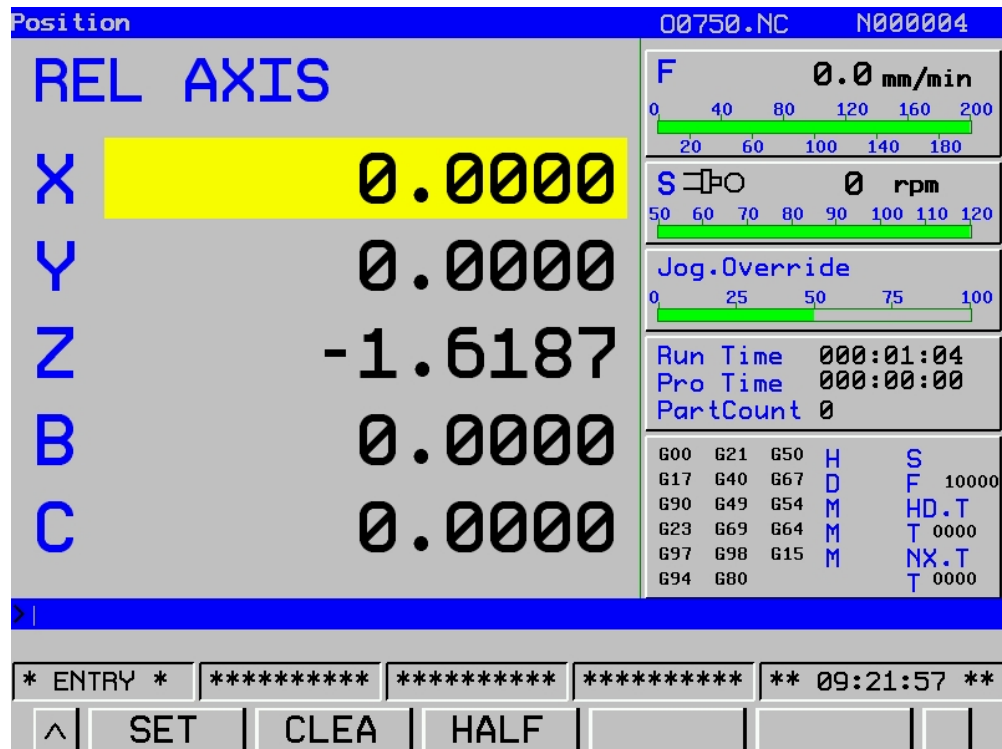

Fig. 3-1-2 Relative coordinates
- 2) **Relative mode:** relative interface displays current tool position on relative coordinate system. It will be called "Relative coordinate" hereafter. Press softkey **【REL】** to enter sub-interface of relative interface (see Fig. 3-1-2).